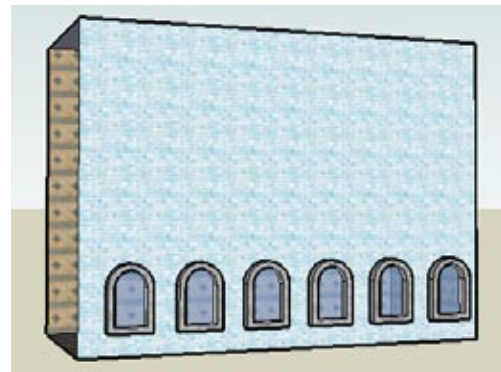

Figure 1-6
- Enter  $5x$  to produce six copies (Figure 1-6). This is better, but the spacing isn't quite right. The windows should be closer together.